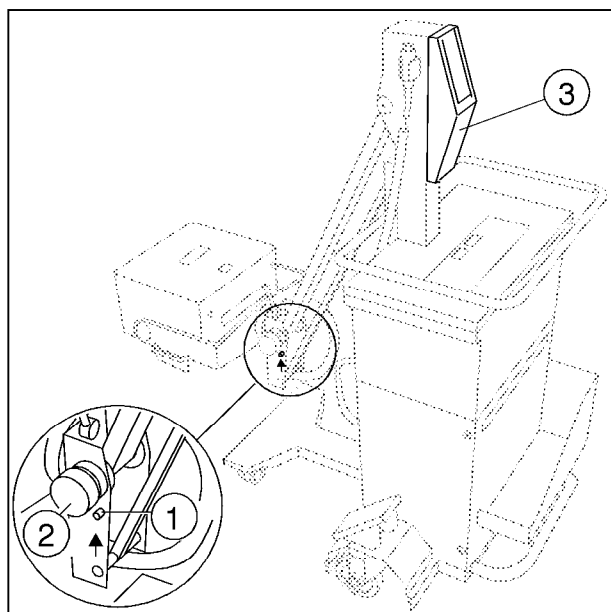

Fig. 20
- Loosen the rotating knob (2/ Fig.20) and unlock the C-arm (1/ Fig.20).
- Remove the cover (3/ Fig.20) at the stand.
- Release the supplemental brake at the C-arm (2/ Fig.20) completely.